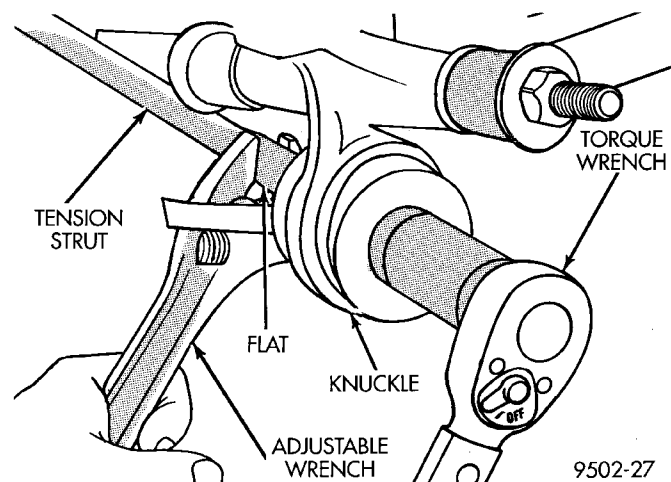

Fig. 20 Torquing Tension Strut Nut
(5) Position a large adjustable wrench on flat of tension strut to keep it from turning, (Fig. 20) and then torque tension strut nut to 95 N·m (70 ft. lbs.).